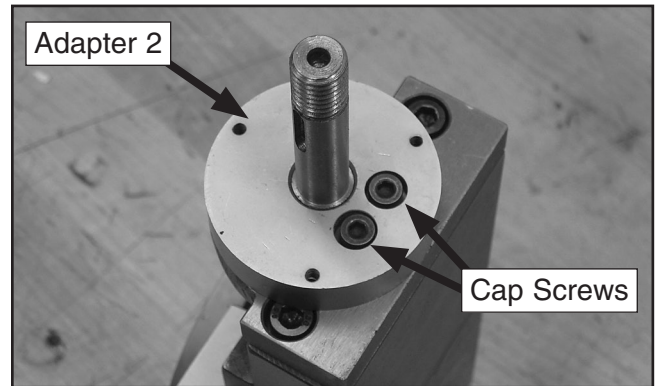

Figure 17. Adapter 2 installed over leadscrew and attached to adapter 1.
23. Slide adapter 2 over the leadscrew shaft, and secure it to adapter 1 with two M4-.7 x 12 cap screws, as shown in **Figure 17**.